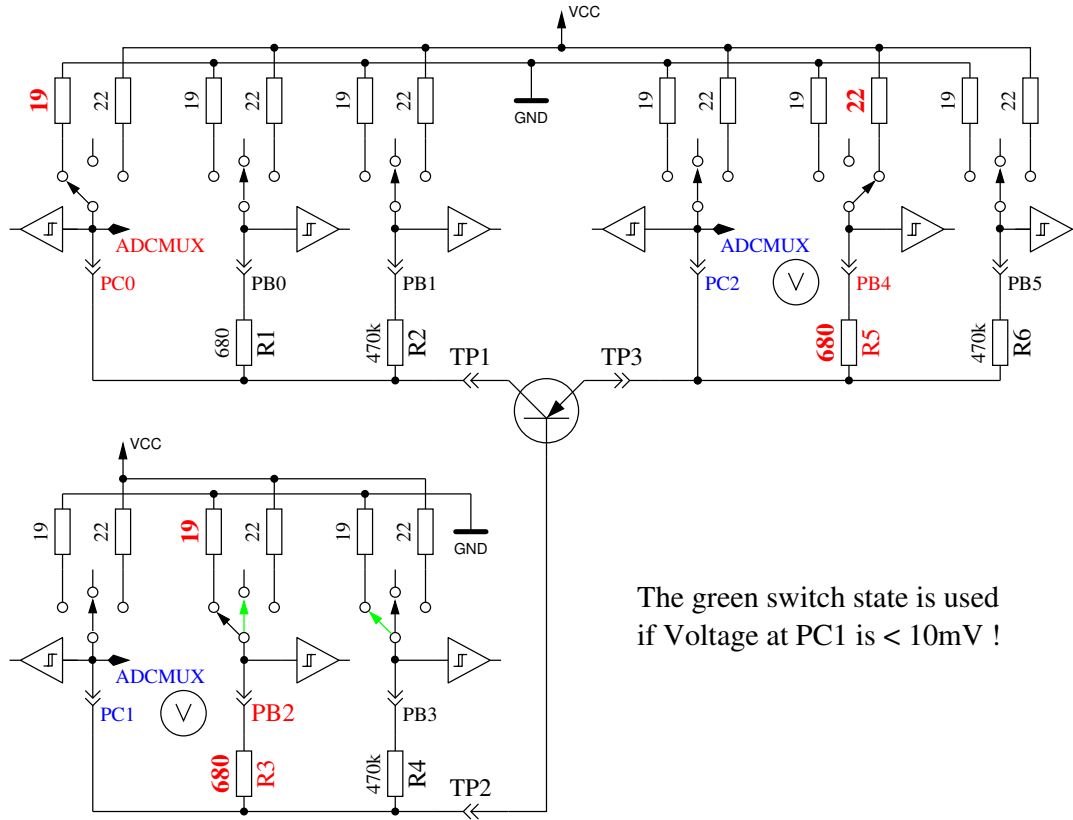

Figure 5.3: hFE measurement of PNP transistor with common collector circuit
First the current amplification factor is measured with common collector for the assumed PNP transistor. The measuring situation is shown in figure 5.3. If the measured voltage at the Base (UB) is above 9mV with the 680Ω resistor, the hFE is build as $hFE = \frac{UE-UB}{UB}$. The voltage UE is the difference of the Emitter-voltage to VCC. The difference between the 22Ω and 19Ω resistors are not respected. If the UB voltage is below 10mV, the measurement is done with the $470k\Omega$ resistor at the base. In this case the current amplification factor is build as $hFE = \frac{UE \cdot 470000}{UB \cdot (680 + 22)}$. Because the current amplification factor of Darlington Transistors can be very high, the factor is limited to 65535 ($2^{16} - 1$).